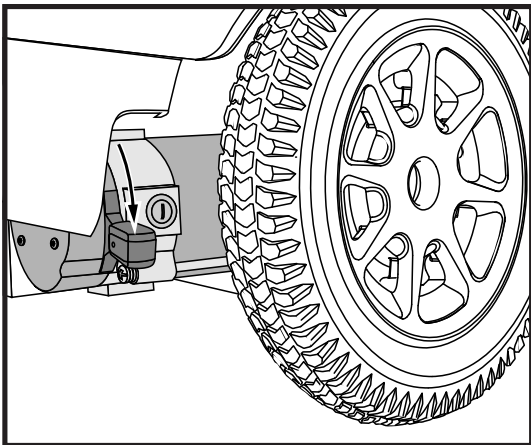

Figure 7. Freewheel Mode
1. Push down both manual freewheel levers for freewheel mode (drive motor disengaged). See figure 7.